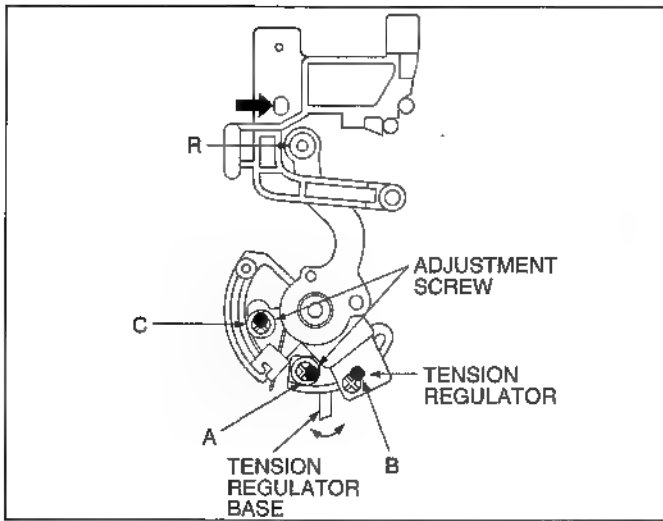

Fig. E-6
When this adjustment is done, melt the grew of the adjustment screws as shown in Fig. E-6
6. Grease the screw A, B and C after Tension Arm Adjustment. The grease quantity at B portion is half of A and C portions as shown in Fig. E-6.